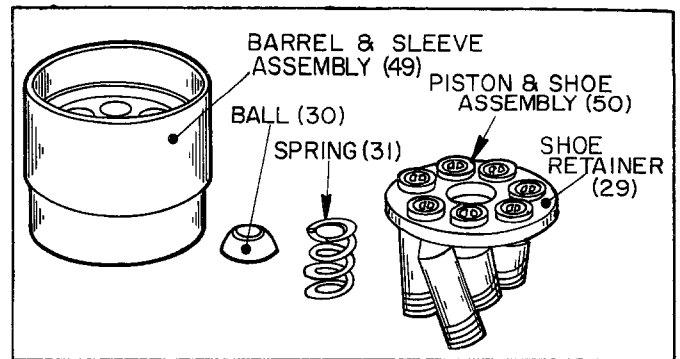
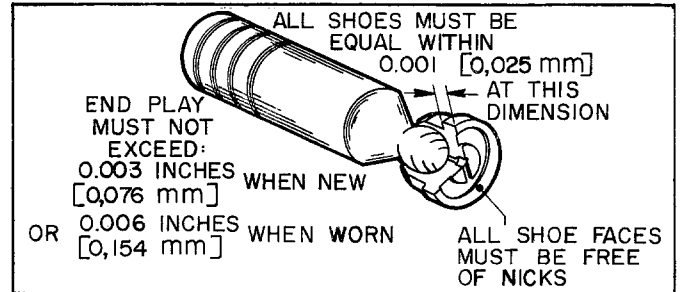

Fig. 6. Rotating Group Assembly (510237)
Fig. 7. Piston & Shoe Inspection (510237)
A. VALVE PLATE — inspect flat surface that meets with the cylinder barrel (49) for excessive wear or scoring. To remove minor defects, stone lightly with a hard stone that is flat to within 0.001 inch (0,03 mm). Be sure to stone lightly. If wear or damage is extensive, replace the valve plate (15).
B. ROTATING GROUP — (Fig. 6 — Rotating Group Inspection). Inspect the cylinder barrel (49) for wear and scoring in the bores and on the surface that meets the valve plate (15). Lightly stoning or lapping the surface will remove minor defects. If defects are extensive, replace the cylinder barrel. Check the piston and shoe assemblies (50) to make sure they are riding properly on the swash block (22). Check each shoe for nicks and scratches, and for smooth pivot action on the piston. For maximum service between overhauls, if one piston and shoe subassembly needs to be replaced, it is recommended that all of them be replaced. Make sure pistons are free in their bores when replacing a new rotating group (fig. 7 - Piston and Shoe Inspection).